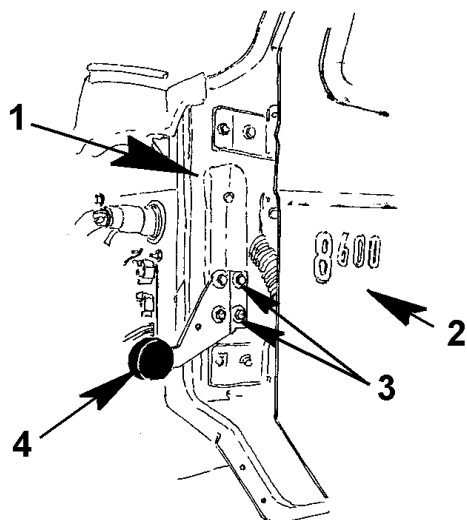

Figure 50 Hood Stop (Drivers Side Shown)
2. To adjust hood in either direction, loosen the four bolts (Figure 50, Item 3) located at the hood stop bracket.
5. Raise the hood and Re-tighten the bolts (Figure 50, Item 3) to secure the hood stop at the desired location.